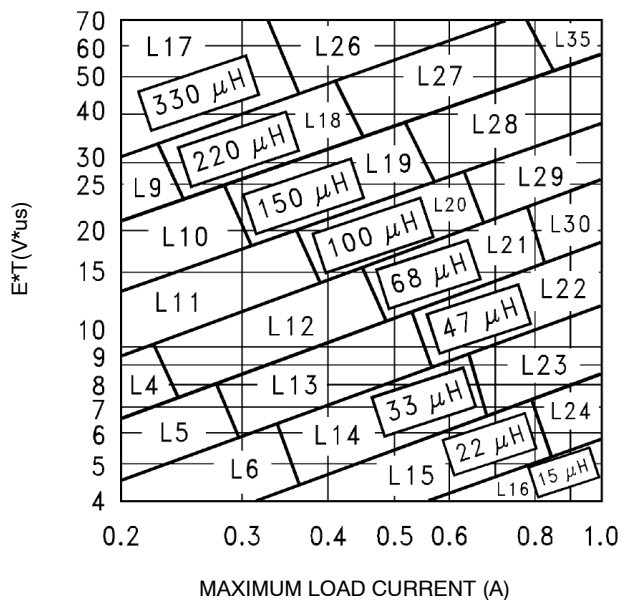

Figure 19. Inductor Value Selection Guides (For Continuous Mode Operation)
<p>4. Inductor Selection (L1)</p> <p>A. Use the following formula to calculate the inductor Volt x microsecond [V x μs] constant:</p> $E \times T = (V_{IN} - V_{OUT} - V_{SAT}) \times \frac{V_{OUT} + V_D}{V_{IN} - V_{SAT} + V_D} \times \frac{1000}{150 \text{ kHz}} (V \times \mu\text{s})$ <p>B. Match the calculated E x T value with the corresponding number on the vertical axis of the Inductor Value Selection Guide shown in Figure 19. This E x T constant is a measure of the energy handling capability of an inductor and is dependent upon the type of core, the core area, the number of turns, and the duty cycle.</p> <p>C. Next step is to identify the inductance region intersected by the E x T value and the maximum load current value on the horizontal axis shown in Figure 19.</p> <p>D. Select an appropriate inductor from Table 3. The inductor chosen must be rated for a switching frequency of 150 kHz and for a current rating of $1.15 \times I_{Load}$. The inductor current rating can also be determined by calculating the inductor peak current:</p> $I_{p(max)} = I_{Load(max)} + \frac{(V_{in} - V_{out}) t_{on}}{2L}$ <p>where t_{on} is the "on" time of the power switch and</p> $t_{on} = \frac{V_{out}}{V_{in}} \times \frac{1.0}{f_{osc}}$	<p>4. Inductor Selection (L1)</p> <p>A. Calculate E x T [V x μs] constant:</p> $E \times T = (12 - 5 - 1.0) \times \frac{5 + 0.5}{12 - 1 + 0.5} \times \frac{1000}{150 \text{ kHz}} (V \times \mu\text{s})$ $E \times T = (6) \times \frac{5.5}{11.5} \times 6.7 (V \times \mu\text{s})$ <p>B. E x T = 19.2 [V x μs]</p> <p>C. $I_{Load(max)} = 1.0 \text{ A}$ Inductance Region = L30</p> <p>D. Proper inductor value = 68 μH Choose the inductor from Table 3.</p>
To simplify the inductor selection process, an inductor selection guide for the LM2595 regulator was added to this data sheet (Figure 19). This guide assumes that the regulator is operating in the continuous mode, and selects an inductor that will allow a peak-to-peak inductor ripple current to be a certain percentage of the maximum design load current. This percentage is allowed to change as different design load currents are selected. For light loads (less than approximately 300 mA) it may be desirable to operate the regulator in the discontinuous mode, because the inductor value and size can be kept relatively low. Consequently, the percentage of inductor peak-to-peak current increases. This discontinuous mode of operation is perfectly acceptable for this type of switching converter. Any buck regulator will be forced to enter discontinuous mode if the load current is light enough.